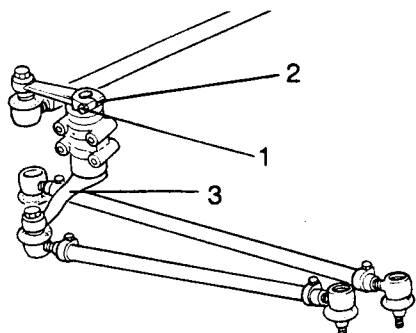

Fig L4.16
- (1) Refer to Fig L4.16. From under the bonnet, remove the pinch bolt (1) and withdraw the upper lever (2) from the relay shaft.
- (2) Remove the two upper nuts and bolts securing the relay to the chassis.
- (3) From under the vehicle, remove the pinch bolt and withdraw the lower lever (3) from the relay shaft.
- (4) Support the relay and remove the two lower nuts and bolts securing the relay to the chassis.
- (5) Withdraw the steering relay.